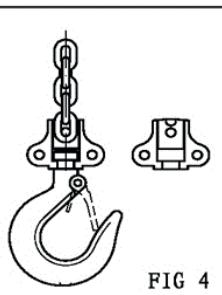

FIG 4
2. Remove the hook lock (fig. 4). Depress "up" button and run chain out of the hoist.